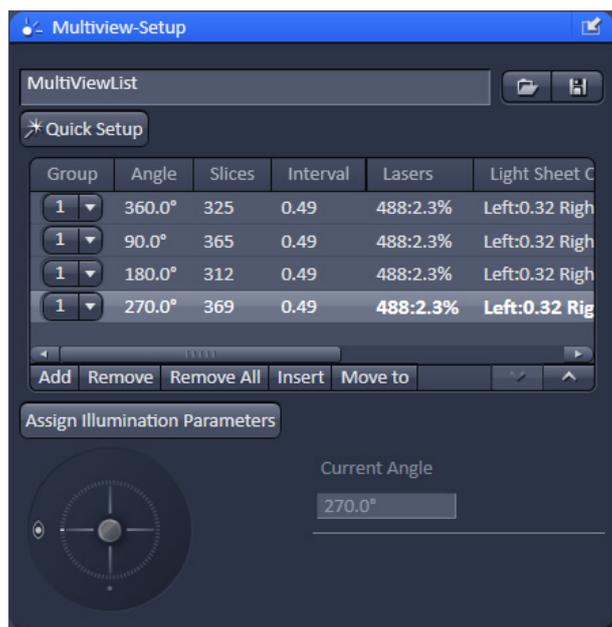

Fig. 119 Multiview-Setup panel
If more than one sample or position should be imaged from multiple angles during one experiment, it is possible to assign views to individual **Groups** (Fig. 119), the group index is shown in the first column of the Multiview list. Each group of views is saved as one individual masterfile with associated files (default setting for separation: time points) hence each group can be used individually for **Lightsheet Processing**.
The **Multiview-Setup** tool tab is divided into three regions (Fig. 119). The upper region is the organization region and the access to the **Quick Setup** wizard. In the middle you find a list of created Views and their control buttons.
-  **Laser power** and **Lights Sheet Offset** can be changed for the whole group by selecting one view of the group; changing the settings accordingly in the **Channels** tool window and pressing the **Assign Illumination Parameters** button (Fig. 119, ).
-  When the **Zoom** setting is changed during the Multiview Quick Setup, the alignment of the light sheet must be checked and adapted. Following the rule, the light sheet adjustment is the last step before image acquisition. To assign different light sheet offset settings to the individual groups, select one view of the group by clicking onto it and highlight. Then use the spin box within the **Channel** tool window to adjust the light sheet alignment. Please see as well section **3.2.8 Acquisition Parameter – Channel** for light sheet adjustment and the **Light Sheet Auto-Adjust** routine. Afterwards press the **Assign Illumination Parameters** button (Fig. 119) to use these settings for the whole group. Repeat the process for every generated group.